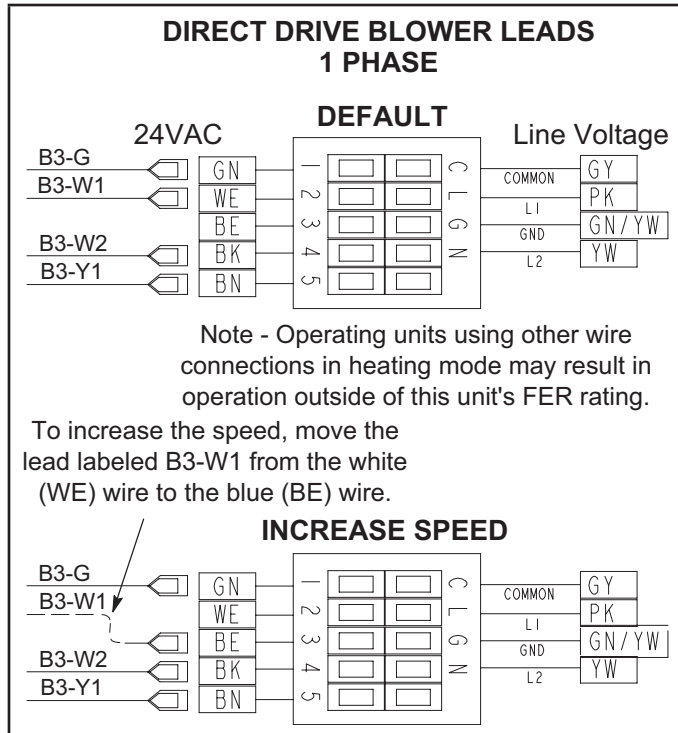

FIGURE 10
- 2 - If CFM is lower than the design specified CFM, move the leads as shown in figure 10 for 208/230 volt single phase units.